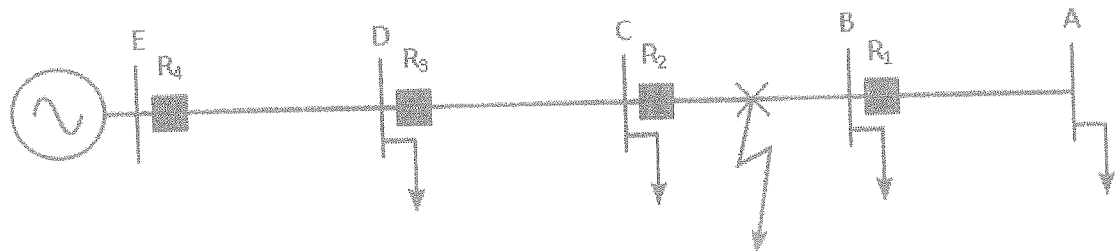

Figure Q5 (b)
- b) Consider the radial distribution line shown in Figure Q5 (b). The bus loads and the fault currents of this system are listed in Table Q5 (b). The suggested locations of the relays along with the circuit breakers of an over-current protection scheme are shown in the figure. All relays are IDMT type and the plug settings of them have been set to 100%.
iii) Suppose there is a fault with fault current of 1200 A in the line section CB as shown in Figure Q5 (b). If primary protection works properly, which customers will lose the power? Calculate the operating time of the primary protection relay.